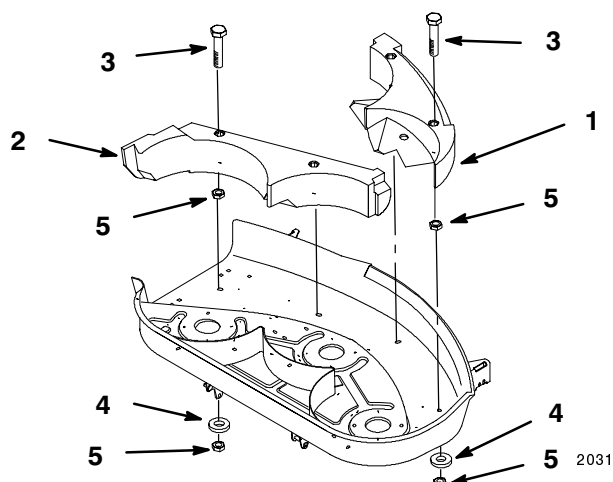

Figure 50
2. Place the left side baffle inside cutting chamber. Secure the baffle to mower with 1-1/4" bolts through baffle and outside of deck (Fig. 50). Secure with 5/16" lock nuts.
2. Remove lock nuts from right side baffle (Fig. 50). Lift baffle and slide out of interlock with left side baffle to remove.